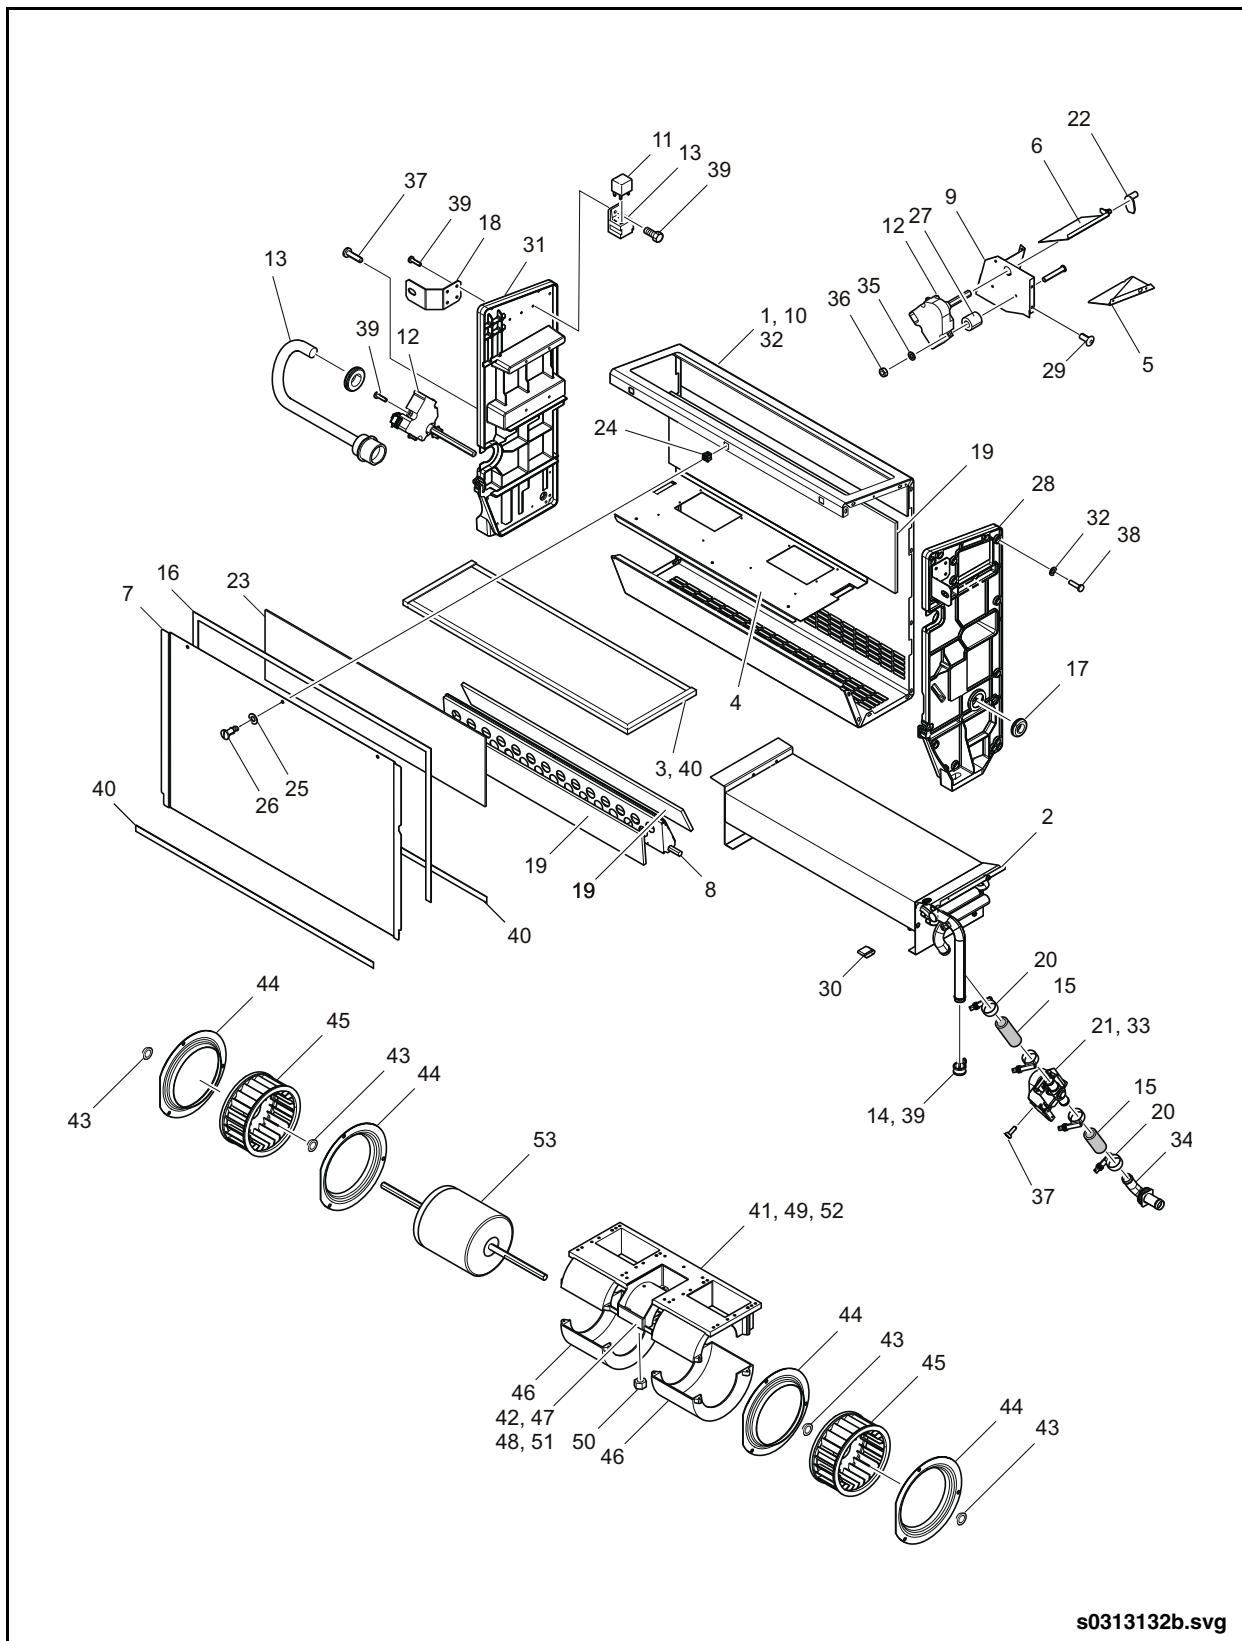

Fig. 10-13: Heater/Defroster Assembly
2. Open front defroster access door and remove defroster access plate. See "Fig. 10-13: Heater/Defroster Assembly" on page 30.